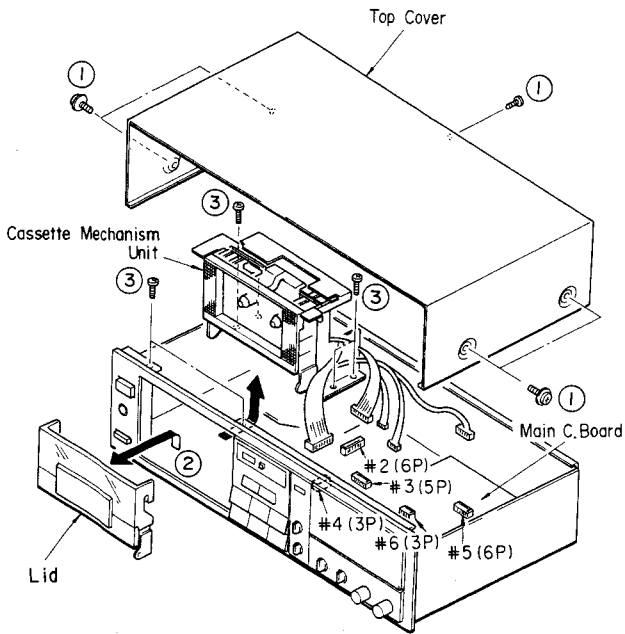

Fig. 1
- ③ Power Supply C. Board
- ④ Main C. Board (1)
- ⑤ Main C. Board (4)
- ⑥ Cassette Mechanism Unit
- ⑦ Main C. Board (2)
- ⑧ Main C. Board (3)
- ⑨ Meter Unit
Remove 5 screws ( ① ) in Fig. 1.
- b. Remove the Lid ( ② ) in Fig. 1.
- c. Detach 5 connectors ( # 2 ~ # 6 ) in Fig. 1.
- d. Remove 6 screws ( ③ ) in Fig. 1 and then pull off the mechanism unit to the back side gently.